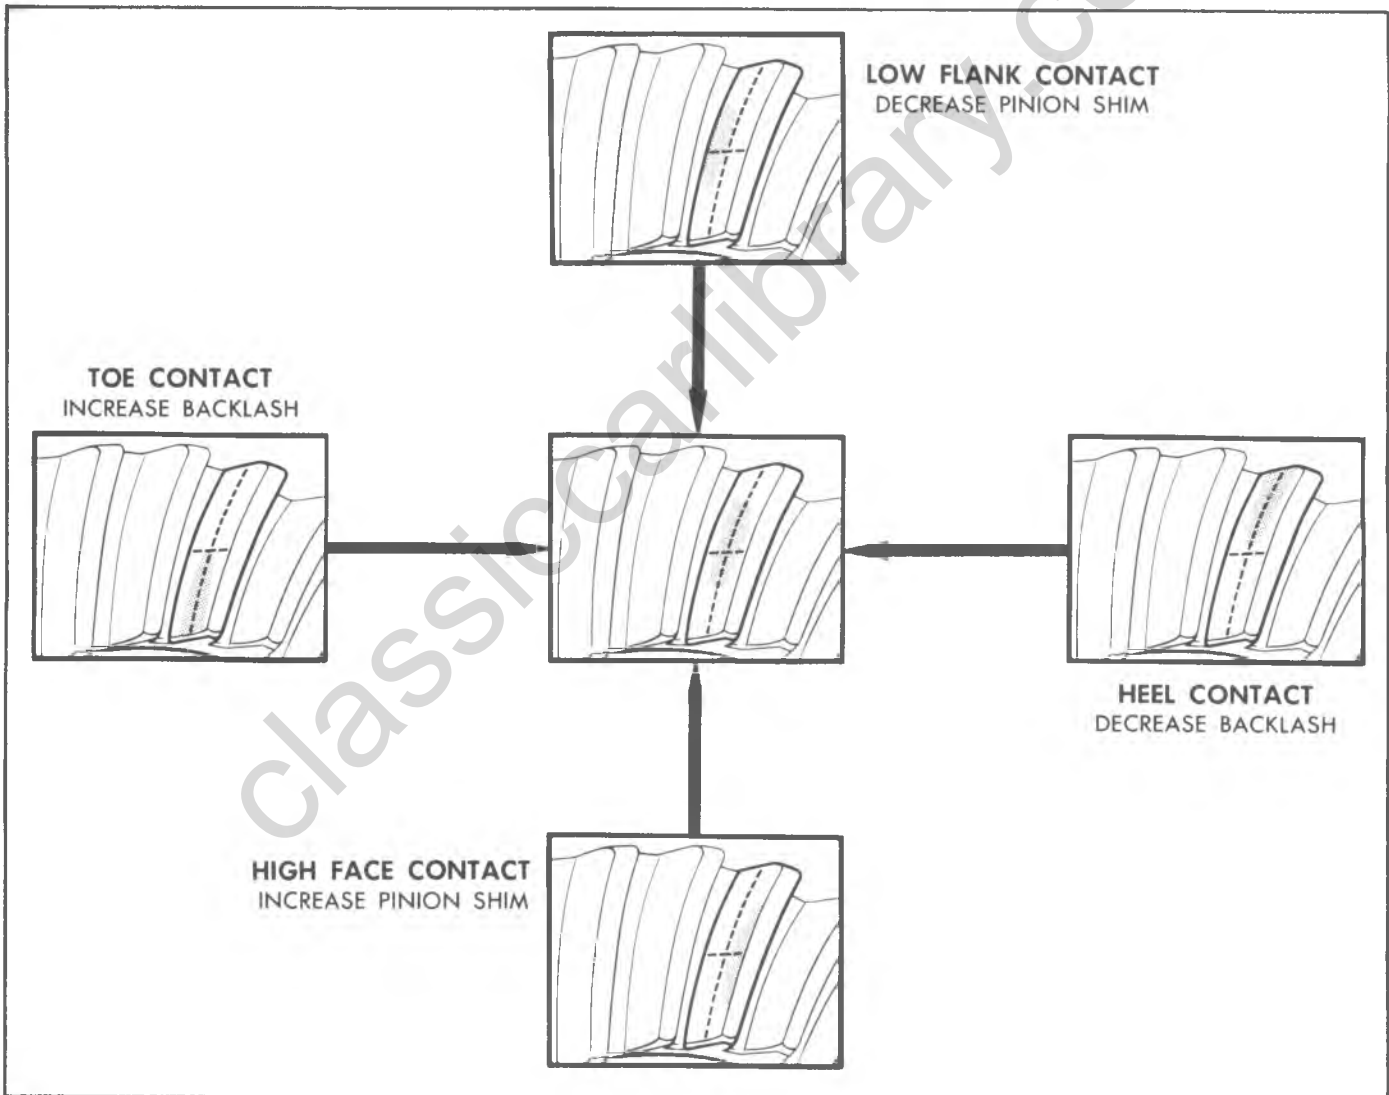

Fig. 26A—Gear Teeth Contact Pattern Check
5. Observe pattern on ring gear teeth and compare with Figure 26A.